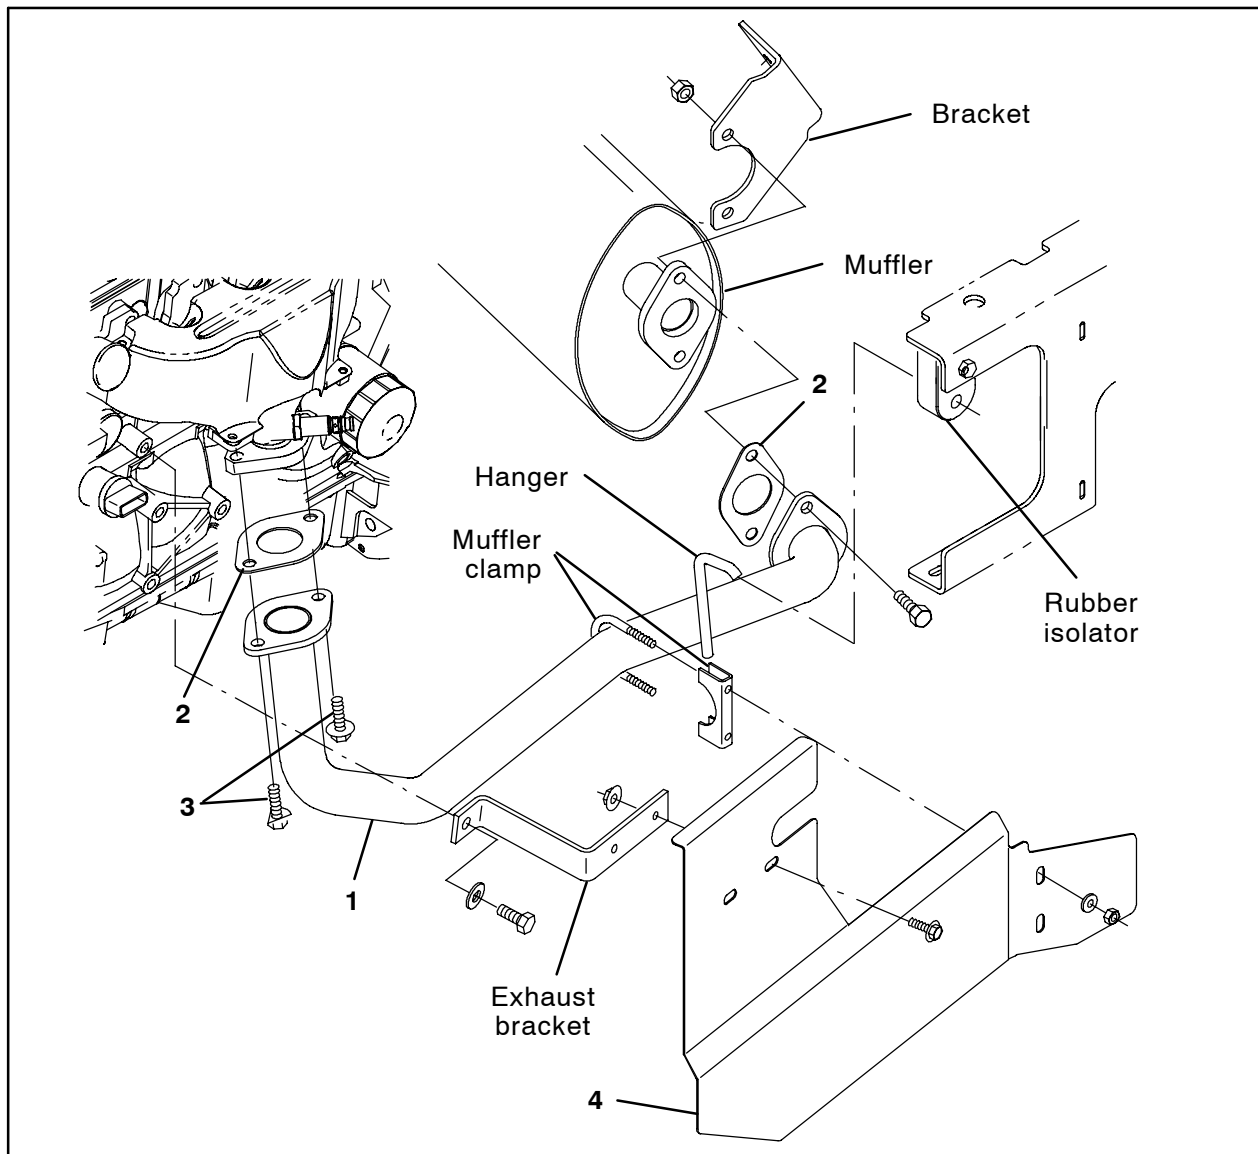

FIG. 2
1. Use two SEMS M10 hex screws (3) to install the new exhaust tube (1) and one gasket (2) onto the engine. Do not completely tighten the hex screws. The hex screws are tightened during later adjustment. Refer to Fig. 2.
2. Insert the hanger on the new muffler tube (1) into the rubber isolator. Refer to Fig. 2.
3. Use set aside hardware to install the other end of the exhaust tube (1) and the remaining gasket (2) onto the muffler. Refer to Fig. 2.
4. Tighten the hardware left loose in the previous several steps to secure the exhaust tube (1) and gaskets (2) to the engine and the muffler. Refer to Fig. 2.
5. Reinstall the exhaust bracket onto the engine. Refer to Fig. 2.
6. Use the muffler clamp and hardware to install the new heat shield (4) onto the exhaust tube (1). Do not completely tighten the hardware / muffler clamp. These items are tightened during later adjustment. Refer to Fig. 2.
7. Use set aside hardware to install the heat shield (4) onto the exhaust bracket. Refer to Fig. 2.
8. Tighten the hardware / muffler clamp to secure the heat shield (4) to the exhaust tube (1). Refer to Fig. 2.